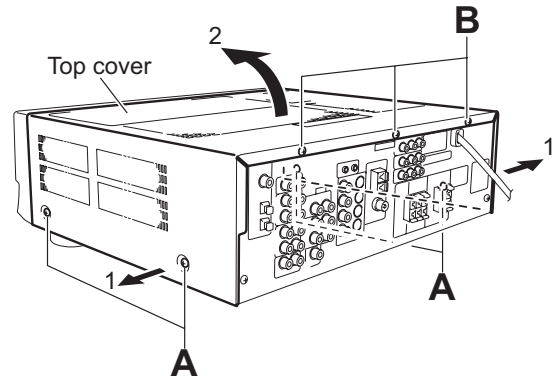

Fig.1
3.1 Removing the top cover (See Fig.1)